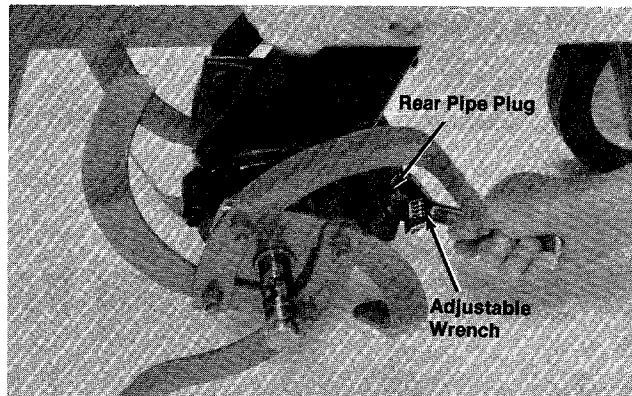

FIGURE 1.
1. Remove rear pipe plug from tiller gear case. See figure 1.